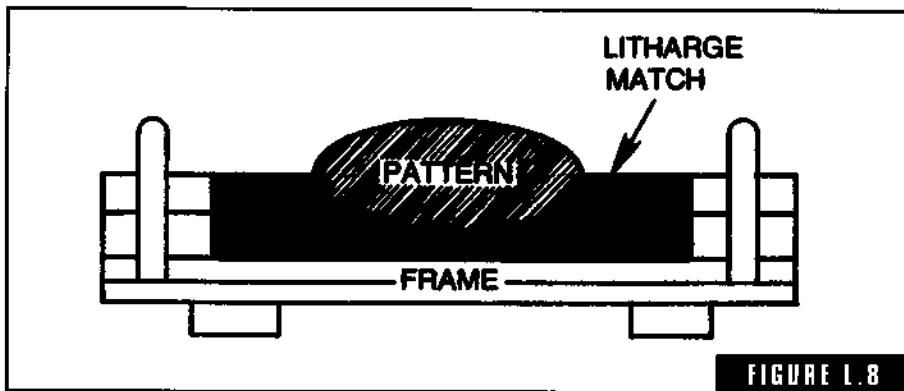

FIGURE L.8
**litharge** Lead monoxide, PbO, also called *massicot*. It is a yellow-to-orange powder used in the foundry to make oil sand followers (oil match) (Fig. L-8). The most used formula is  $\frac{1}{2}$  dry naturally bonded molding sand and  $\frac{1}{2}$  dry sharp (core sad). Temper the sand with linseed oil and mix in a small handful of litharge.